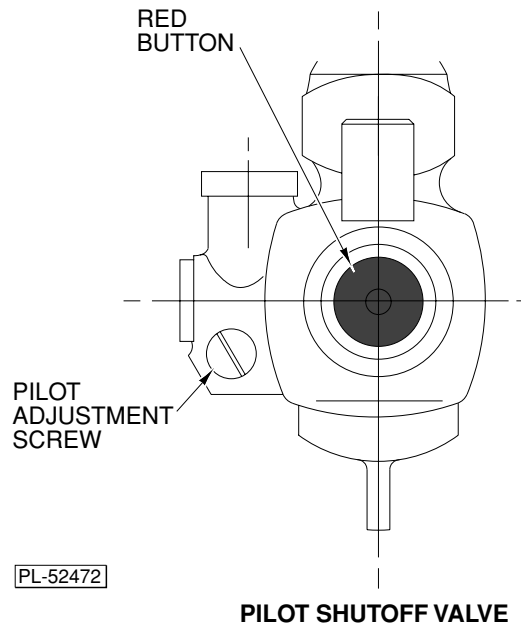

Fig. 1
4. Depress and hold in on the red button (Fig. 1) on the automatic pilot shutoff valve while lighting the pilot burner with a lit taper.
2. Extinguish pilot flame by turning the adjusting screw on the pilot shutoff valve (Fig. 1).